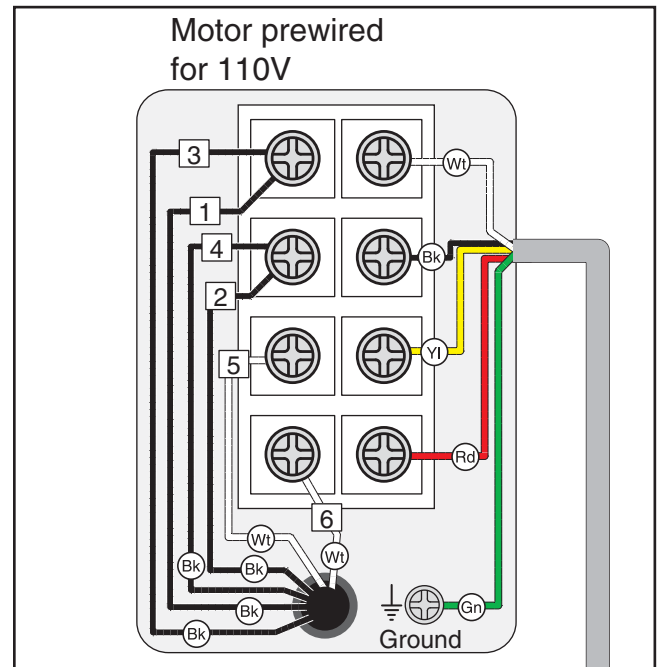

Figure 4. Motor configured for 110V operation.
2. Re-configure the motor wiring by removing wires 1, 3, 4, 2, 5, and 6 from the terminal block (see **Figure 4**).